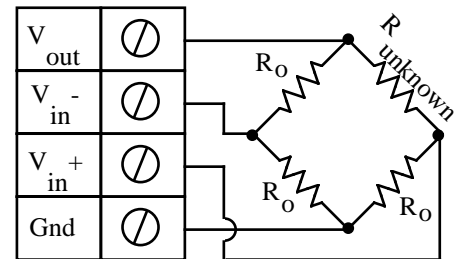

Fig 3.5 - Resistance Measurement - Bridge Circuit
Resistance measurement using a bridge circuit involves connecting a resistor of unknown value as one leg of a full-bridge circuit, applying a voltage across the bridge, and measuring the voltage across the two intermediate nodes. The intermediate node voltage is measured between a pair of instruNet Vin+ and Vin- input terminals while the bridge excitation voltage is supplied by either the instruNet Vout terminal or an external voltage source. In figure 3.5, Runknown is a resistor whose value is being measured and Ro is a
5. Wire your voltage source per figure 3.5, and refer to the steps at the beginning of this chapter for more information on how to set up your sensor.^{5,10}